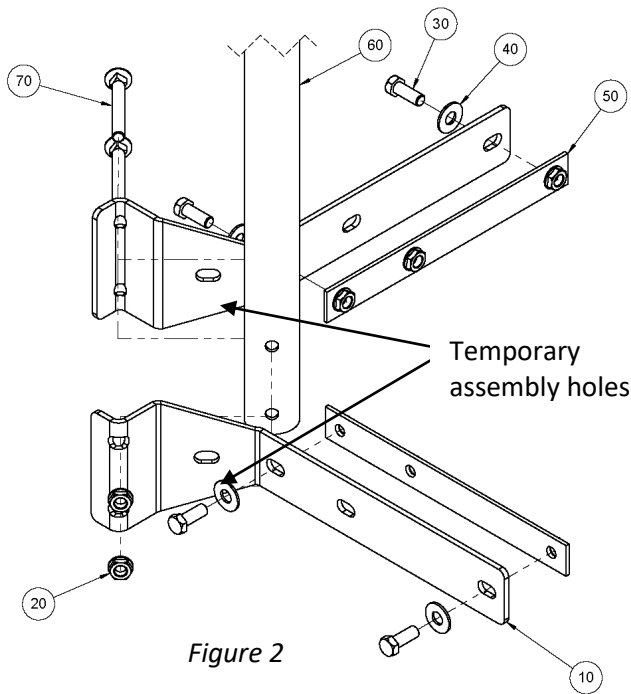

Figure 2
Corner Posts and Post Brackets: (See Figure 2) Note the position of the door in open position.
- Temporarily assemble **corner brackets** using temporary assembly holes in bracket halves (10) and a 3/8-16 nut and bolt (20, 30) See Figure 2.
- Temporarily assemble **center brackets** using temporary assembly holes in bracket halves and a 3/8-16 nut and bolt. (See Figure 2 for example with corner brackets)